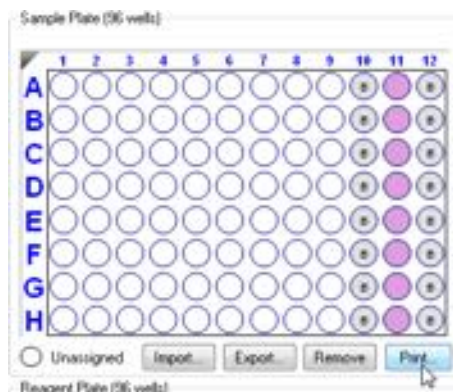

Figure 5-26: Sample Plate Print Button
1. In the **Sample Plate Map** (see Figure 5-26), click **Print**.